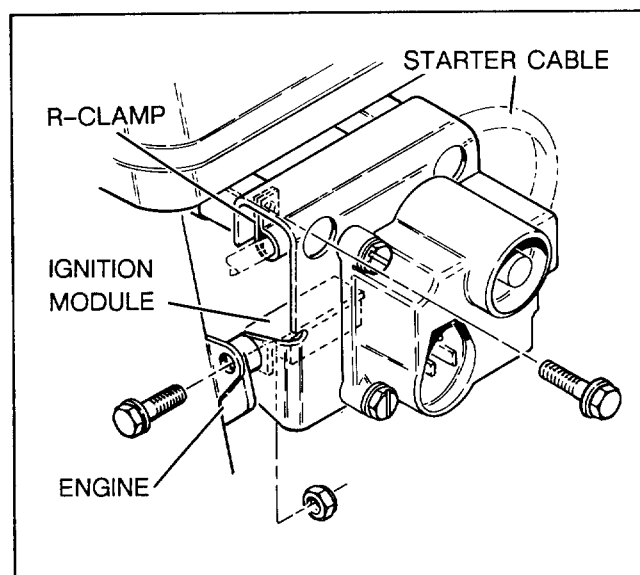

Figure 4
2. Fit (2) R-clamps over the starter cable, loop the cable inside the starter box bracket, insert an M6 x 16mm lg. screw in each R-clamp and through a bracket mount hole. Mount and secure the bracket to the engine with the (2) M6 x 16mm screws (Fig. 4).
3. Insert an M6 x 16mm screw through the hole in the side of the engine block and side hole of the starter box bracket. Install the ignition module and bracket over the screw and secure the assembly with an M6 flange nut (Fig. 4). Ensure the starter cable is fitted in the slot in the ignition module bracket before tightening the nut.